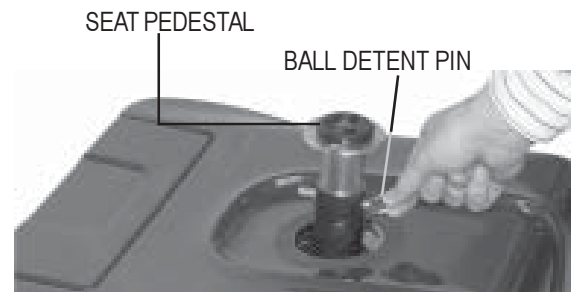

FIGURE 14. SEAT HEIGHT ADJUSTMENT
2. Use the attached ring to pull and remove the ball detent pin from the seat post tower. See figure 14.